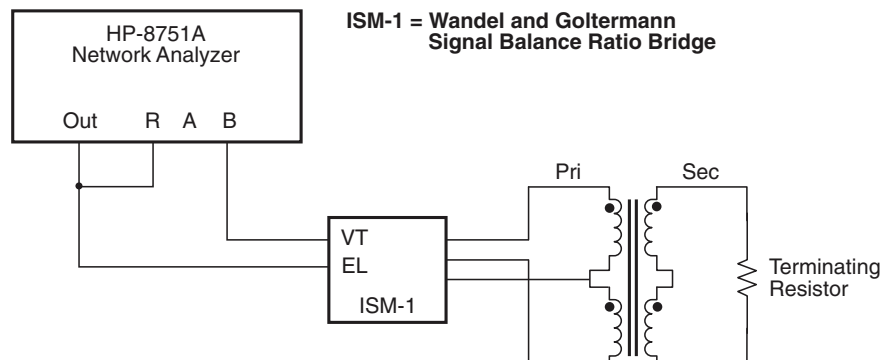

Figure 2. Longitudinal Balance Test Circuit
2. (continued from previous page) A recommended test set up is shown in Figure 2. A high inductance “low frequency” is common mode choke, such as PE-65950NL or PE-65853NL, is recommended to improve balance, or to correct inherent unbalances of some circuits.